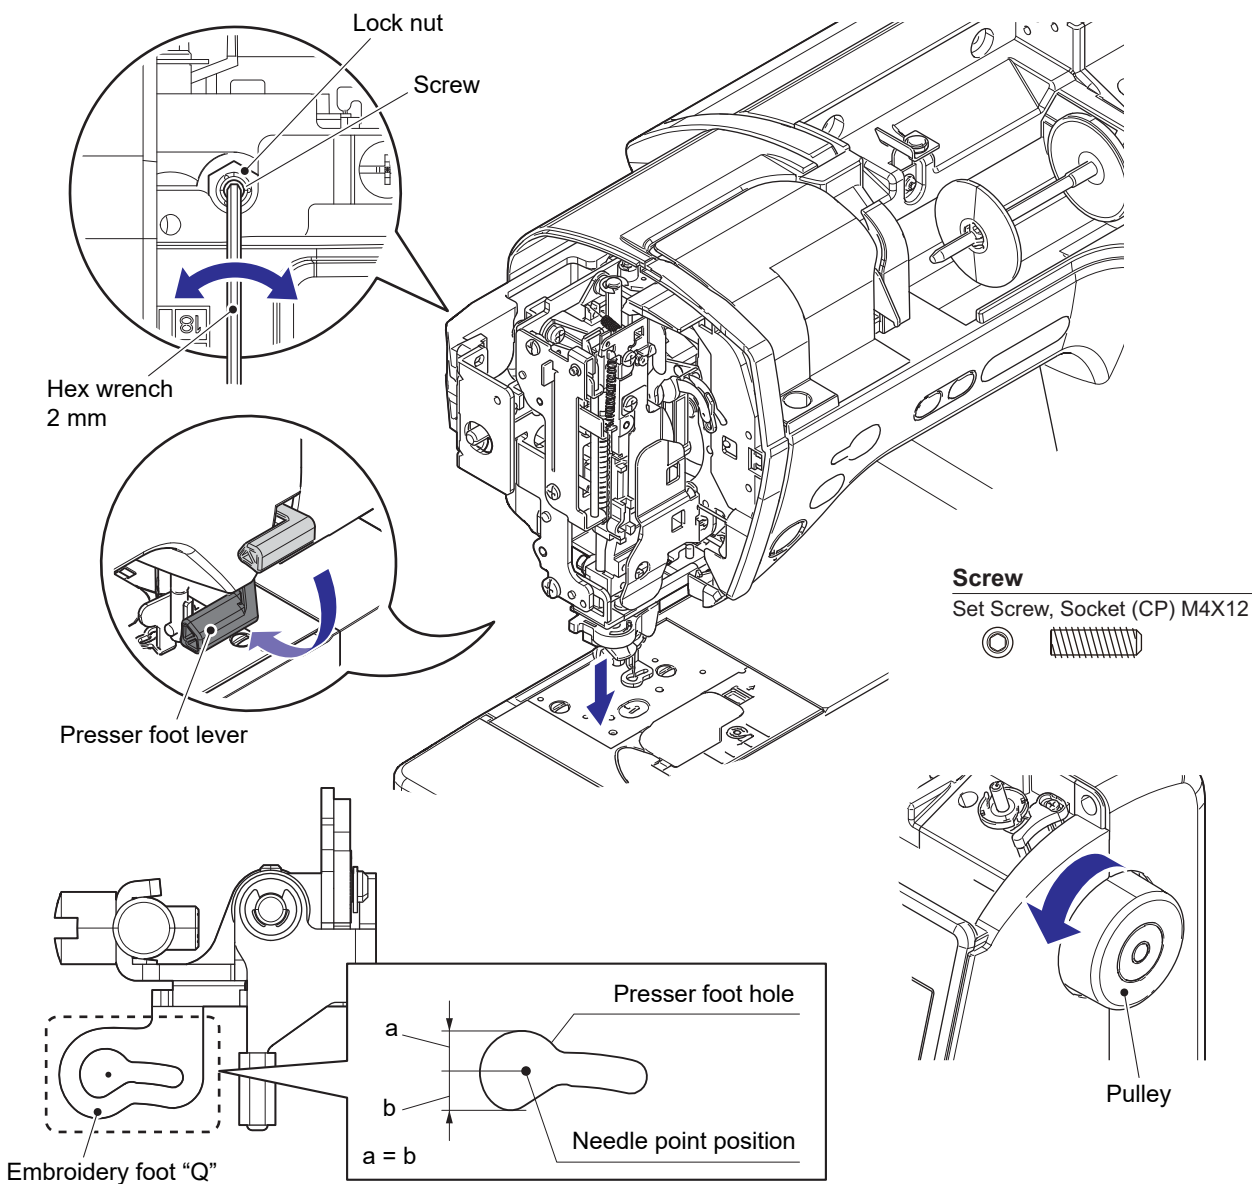

Fig.1
7. Adjust the position of the needle point by turning the screw. (Fig.1)